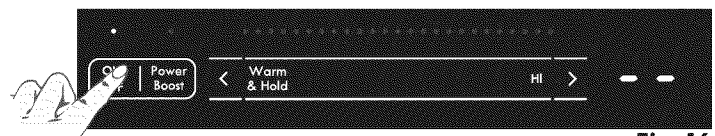

Fig. 16
Once the cooktop is active, touch the Cooking Zone On/Off pad (Fig. 16) to activate the slider zone control.
3. To start one or more of the Cooking Zones lightly touch the ON OFF key pad for the Cooking Zones needed. A beep will sound and the chosen Cooking Zone power level Alpha-Numeric display will show "- -" (Fig. 16) indicating no power level for the Zone has been set yet. **NOTE:** If no other key pad is touched within 10 seconds the request to Power ON the Cooktop Zone will clear.